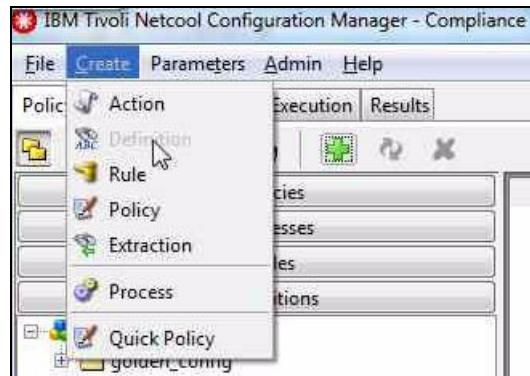

Figure 4-12 Creating a Definition
1. In the Netcool Configuration Manager Compliance application, browse to the Definitions pane and select **Create** → **Definition** from the menu bar, as shown in Figure 4-12.